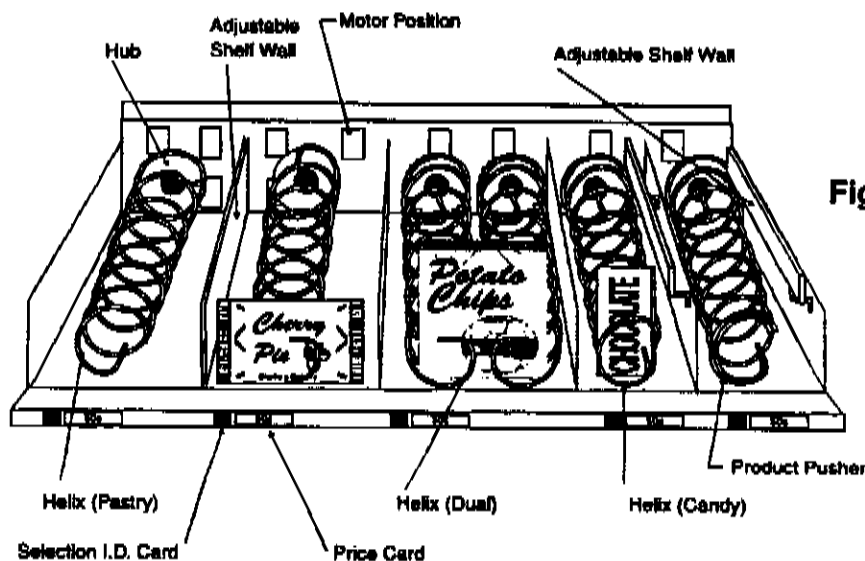

Figure 2-1
11. Install product pushers where required. The plastic product pushers are snapped onto the helix in the desired position to assure product delivery (See *Figure 2-1*).